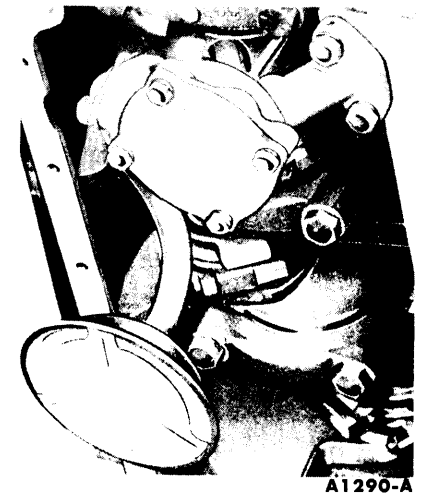

FIG. 49—Oil Pump and Inlet Tube Installed
3. Place the oil pump in the oil pan and position the oil pan on the cross member. Position a new oil pump gasket on the cylinder block. Insert the intermediate drive shaft into the oil pump housing and install the oil pump and shaft as an assembly (Fig. 49). **Do not attempt to force the pump into position if it will not seat readily. The drive shaft hex may be misaligned with the distributor shaft. To align, rotate the intermediate shaft into a**